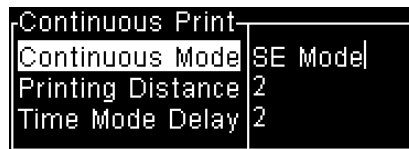

Figure 7-5: Continuous Print Dialog Box
- 3 Press Enter to open the Continuous Print dialog box (Figure 7-5).